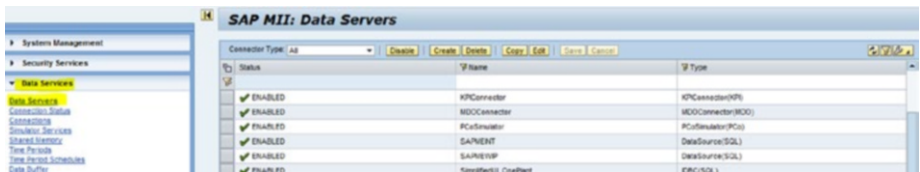

Figure 3-2. SAP MII Data Server configuration
1. From the left menu, select Data Services ► Data Servers, as shown in Figure 3-2.